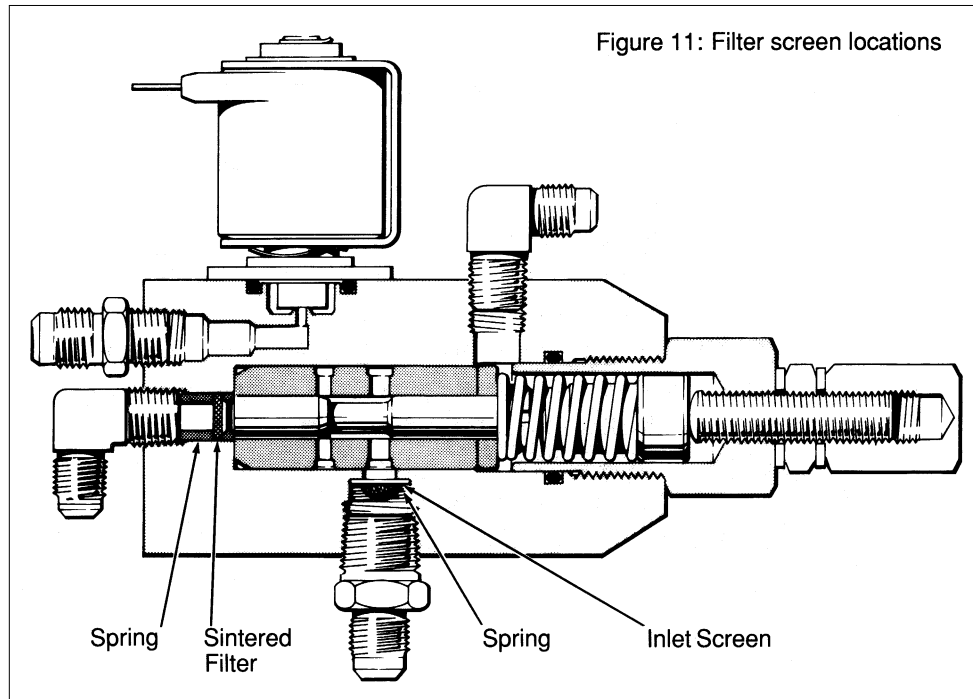

Figure 11: Filter screen locations
There are (2) screens in the main body of the governor (see figure 11).